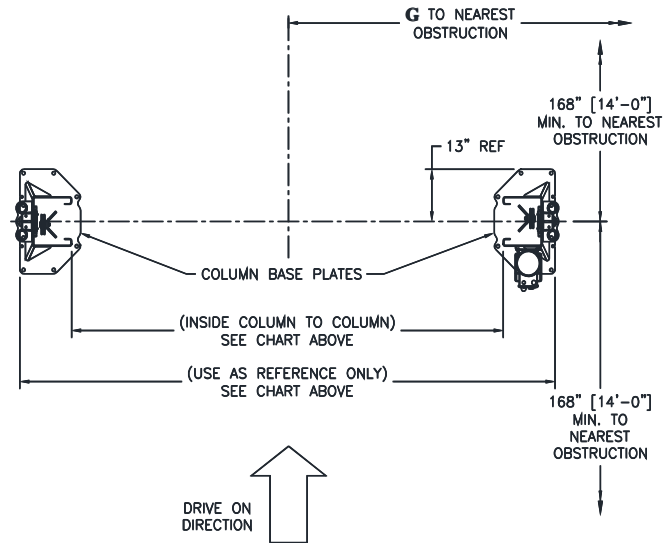

Fig. 1b - Service Bay Layout
- Lay out the service bay according to the architect's plans or owner's instructions (**see Fig 1b—Service Bay Layout**). Failure to install in this orientation can result in personal and property damage.